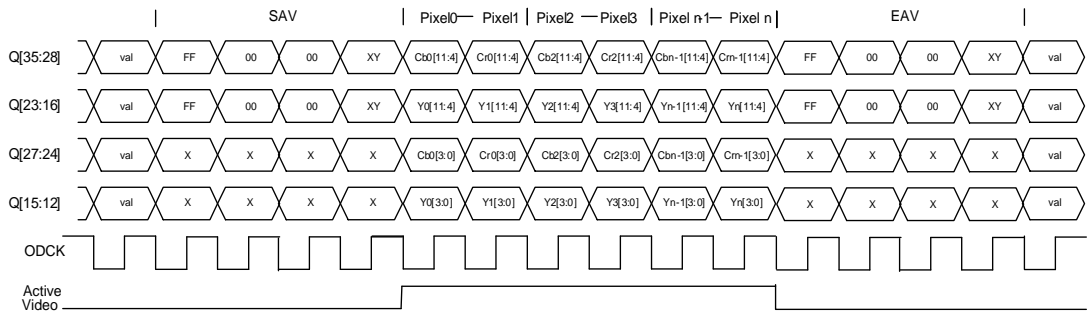
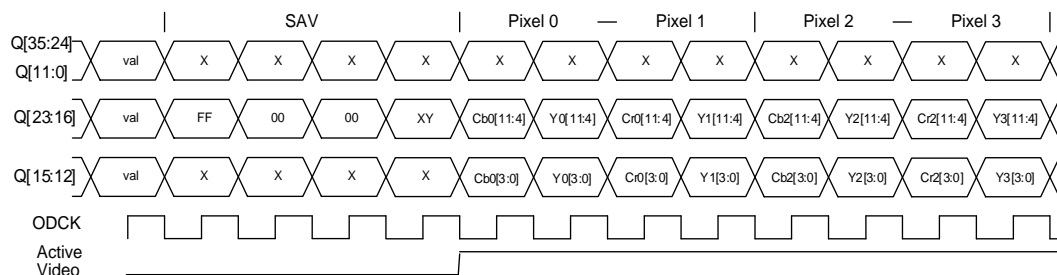

Figure 8.7. YC 4:2:2 Embedded Sync Timing Diagram
Figure 8.9. YC Mux 4:2:2 Embedded Sync Encoding Timing Diagram
The YC 4:2:2 embedded sync format is identical to the previous format (YC 4:2:2), except that the syncs are embedded and not separate. Pixel data can be 24-bit, 20-bit or 16-bit. DE is always output. Figure 8.7 on page 52 shows the Start of Active Video (SAV) preamble, the End of Active Video" (EAV) suffix, and shows timings with OCLKDIV = 0 and OCKINV = 1.
This mode is similar to that shown in Figure 8.7 on page 53, but with embedded syncs. It is similar to YC 4:2:2 with embedded syncs, but also multiplexes the luminance (Y) and chrominance (Cb and Cr) onto the same pins on alternating pixel clock cycles. Normally this mode is used only for 480i, 480p, 576i and 576p modes. Output clock rate is half the pixel clock rate on the link. SAV code is shown before rise of DE. EAV follows the falling edge of DE. See the ITU-R BT.656 Specification. 480p, 54-MHz output can be achieved if the input differential clock is 54 MHz. Figure 8.9 on the next page shows OCLKDIV = 0 and OCKINV = 1.